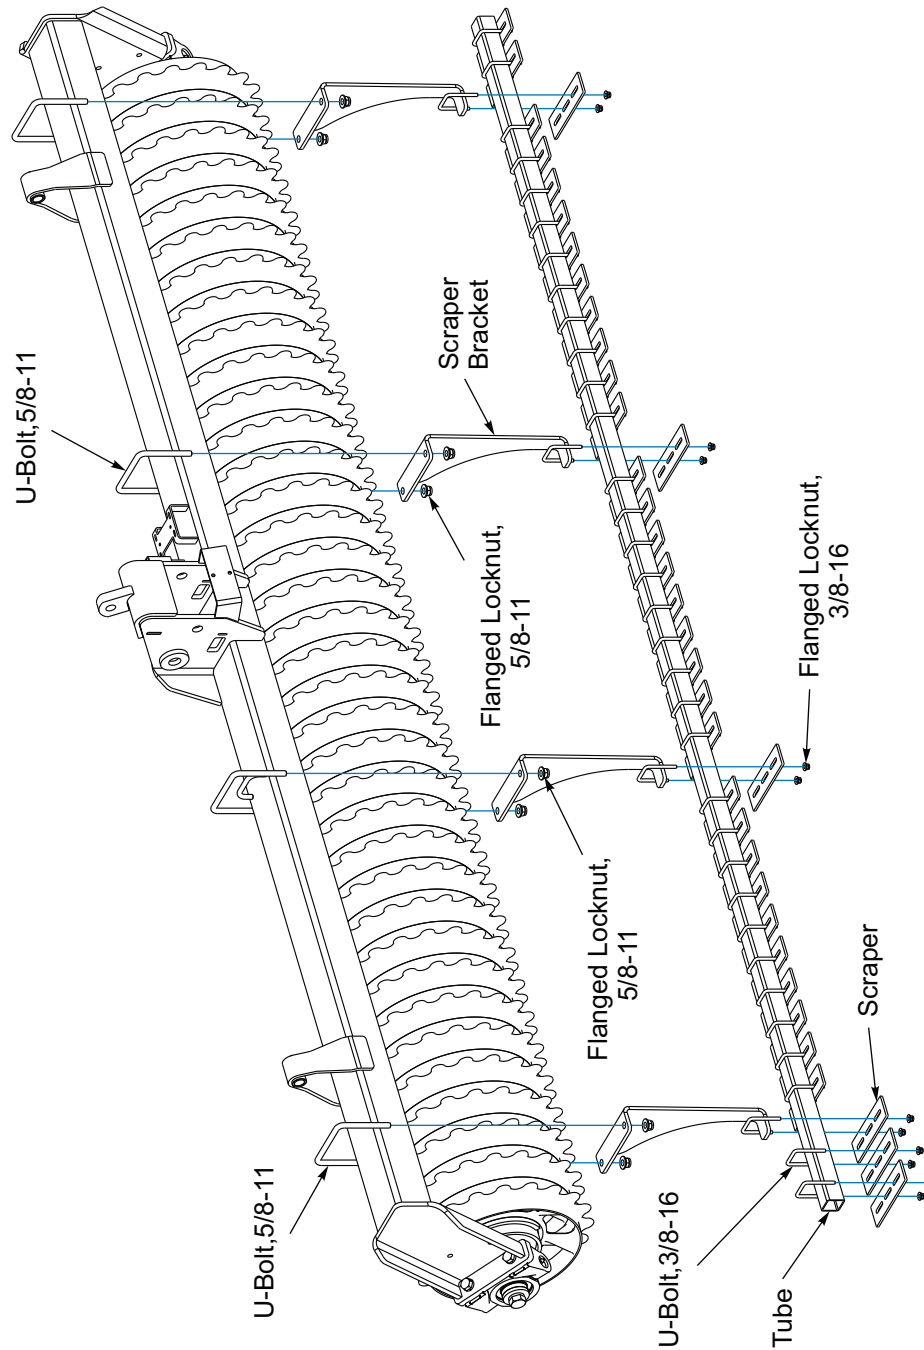

Figure 2-25: Notched Scraper Installation, 10FT - 16FT Models
1. With the rollers on level ground, place four 5/8-11 U-Bolts over the Frame Tube and through the Scraper Brackets. Hand tighten Flanged Locknuts. **See Figure 2-25.**